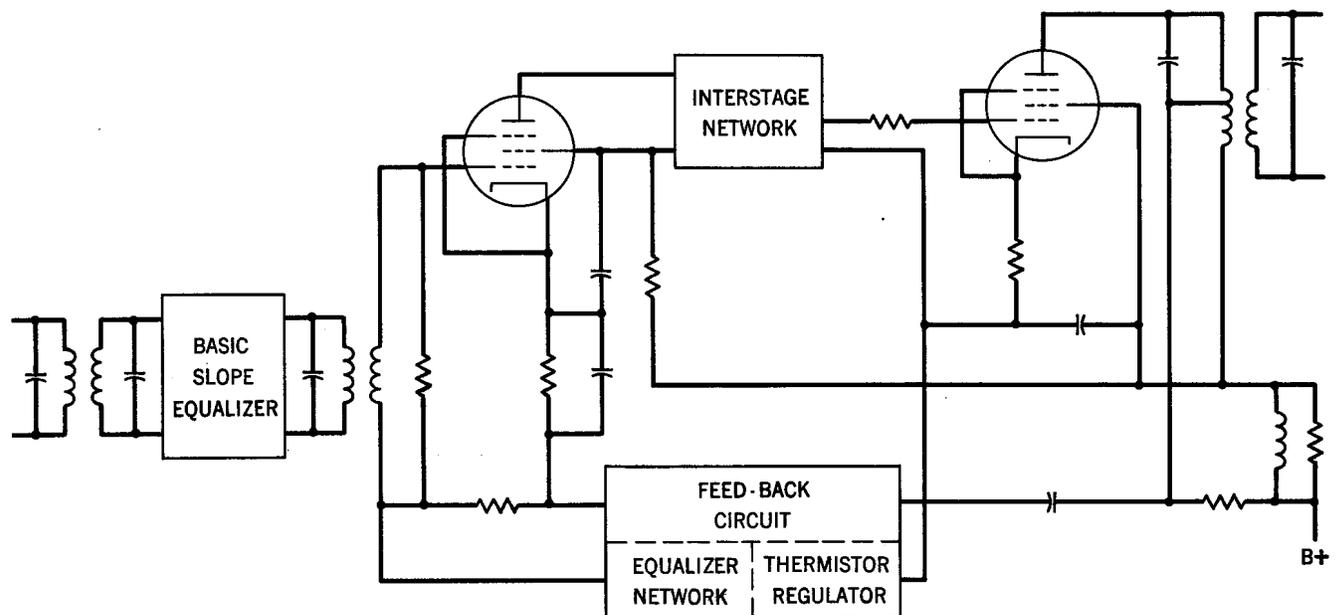

Fig. 5 - Block Schematic of Transmitting Amplifier
B. Transmitting Amplifier (See Fig. 5)